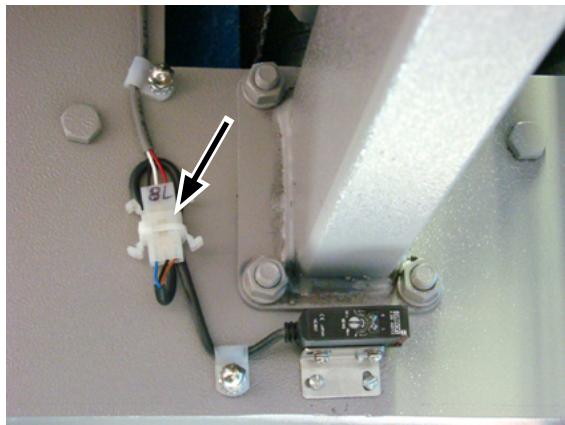

Figure 7-28: Photosensors are connected to the unit using white connection plugs.
Trace its wiring to the sensor's connector plug (Figure 7-28) and disconnect.
3. Locate the proximity sensor to be replaced. Trace its wiring to the sensor's connector plug (Figure 7-28) and disconnect.